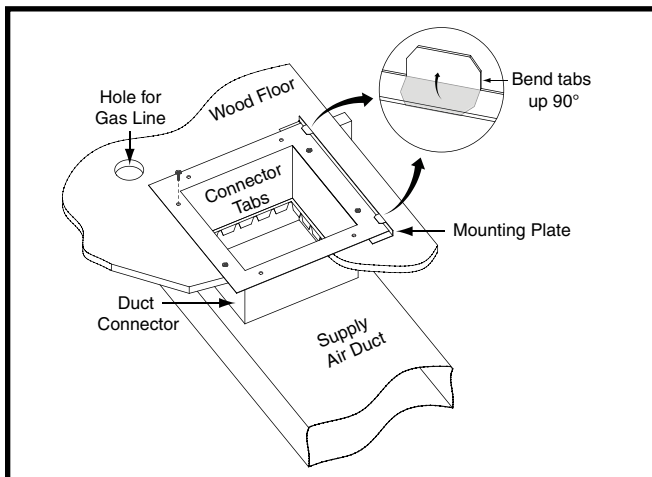

Figure 8. Standard Duct Connector Installed
2. Mark the cut-out area on the supply air duct by tracing around the connector tabs of the duct connector. See Figure 8 \(page 9\).
5. Install the mounting plate under the back side of the duct connector as shown in Figure 8. Align the screw holes in both components.